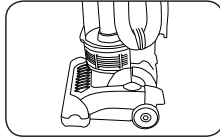

Fig. 2
2. Upright position - for storage or when cleaning tools are used (Fig. 2). The handle locks in this position.